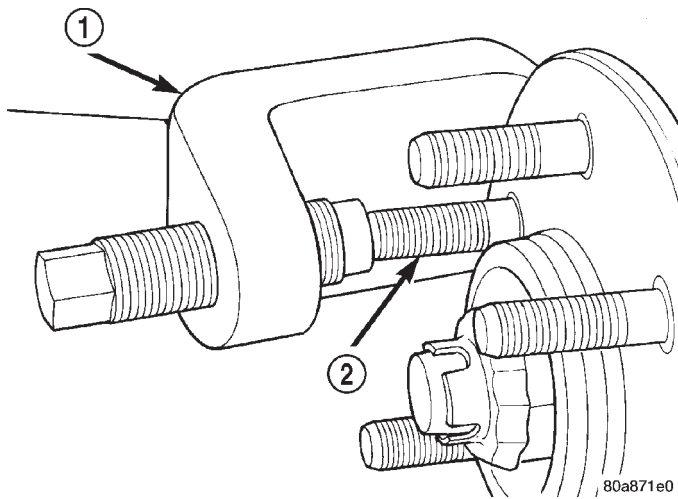

Fig. 9 Wheel Stud Removal
(1) Raise and support vehicle.
(2) Remove wheel and tire assembly.
(3) Remove brake caliper, caliper adapter and rotor, refer to Group 5 Brakes for procedure.
(4) Remove stud from hub with Remover C-4150A (Fig. 9).